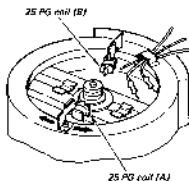

Fig. 7-11.
2. Connect a dual-trace scope to TP-307/V1 Board and to TP-409/SV4 Board. Adjust the 25 PG coil (A) by moving it slightly to the left or right so that the phase between the leading edge of vertical sync of video output and the leading edge of the 25 PG pulse is $8 H \pm 1 H$. See Fig. 7-11. The 25 PG coil (A) is located at 12 o'clock position on the drum.